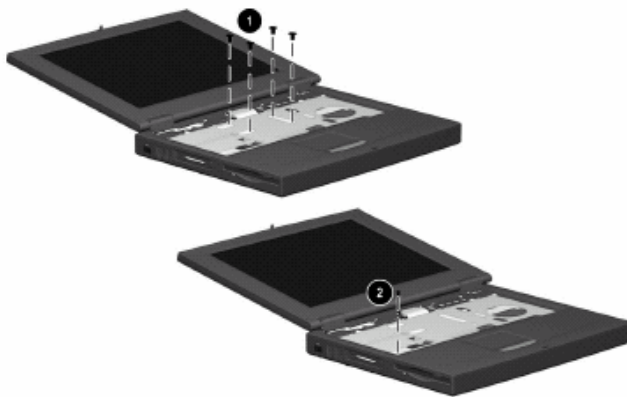

Figure 5-12: Removing the Heat Sink Screws
2. Remove the four M2.5 × 7 screws 1 and the M2.5 × 4.5 screw 2 securing the heat sink to the base enclosure (Figure 5-12).